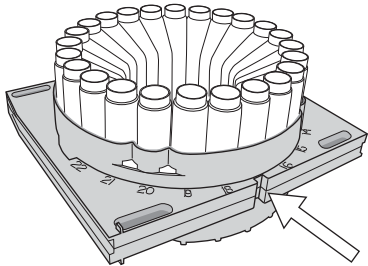

Figure 2-2 Insert the keyed end first so that it faces the back of the refrigerated compartment
3. Locate the back of the rack (arrow, Figure 2-2). This end has a notch that fits a key on the rear wall of the refrigerator.